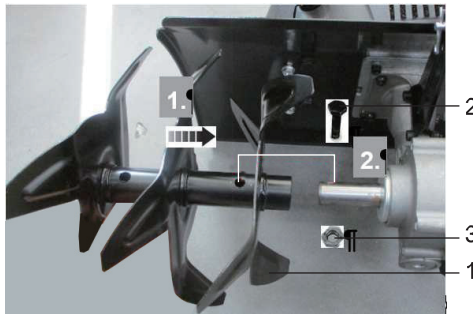

Fig. 14
5. Replace the tines (1) with the same type. Align the mounting holes of the tine and the tine shaft, pass the hex bolt (2) through the mounting holes, and fix the tine (1) with the nut (3). Hold the nut (3) firmly using a suitable wrench, then tighten the hex bolt (2) clockwise using a suitable wrench with 33-44FT LB to ensure safe operation of your garden tiller (Fig. 14).